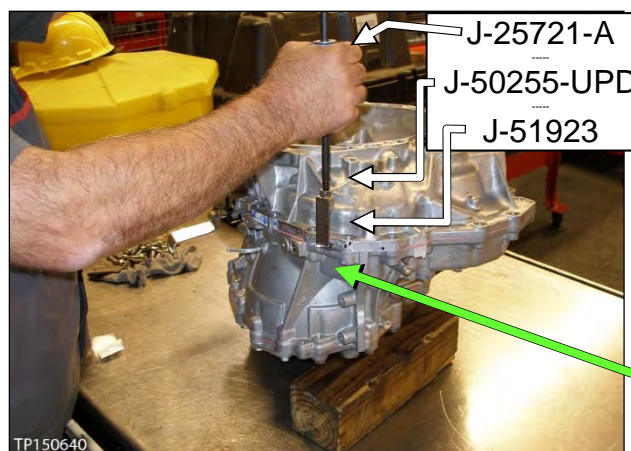
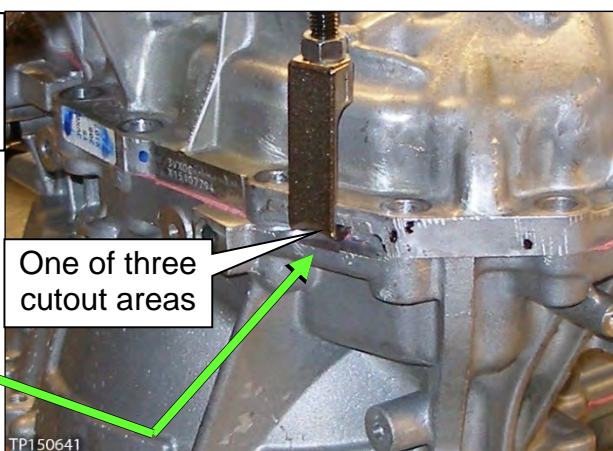

Figure 33
Figure 34
- Use Slide Hammer J-25721-A and Slide Hammer Bolt J-50255-UPD with J-Hook J-51923 at the cut out areas similar to the one shown in Figure 33 and Figure 34.